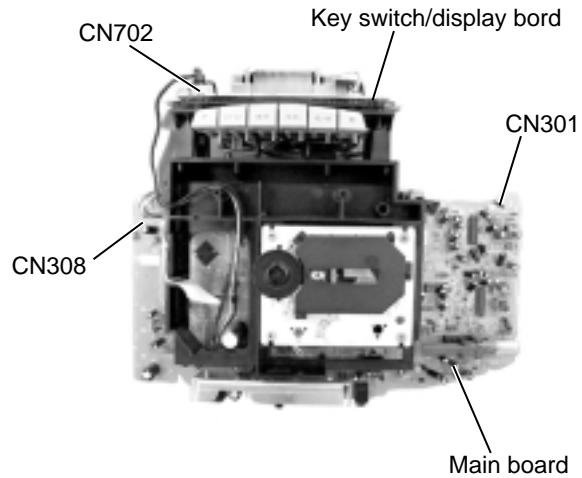

Fig.17
■Removing the main board (See Fig.17 to 19)